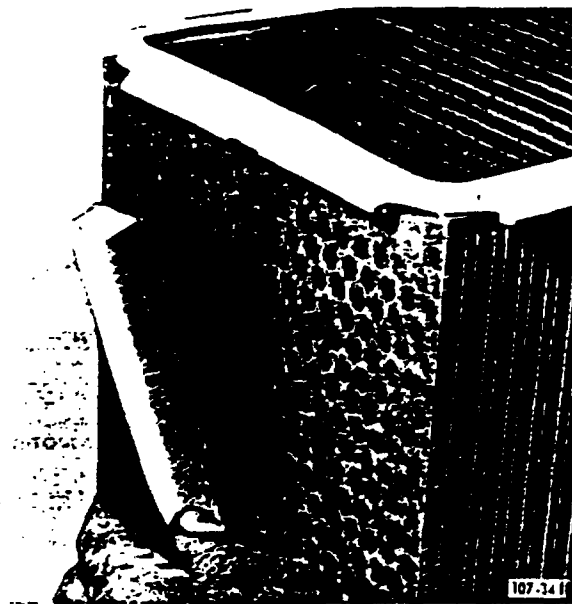

Figure 2-402. Placing Gasket
10. Place new gasket into position. See Figure 2-402.